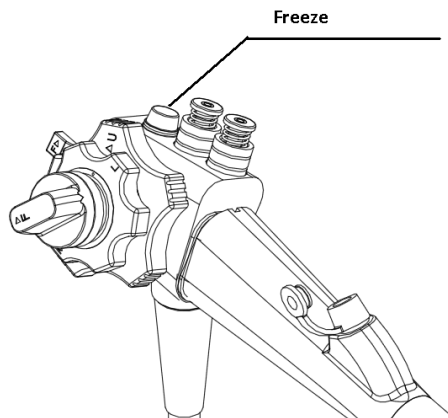
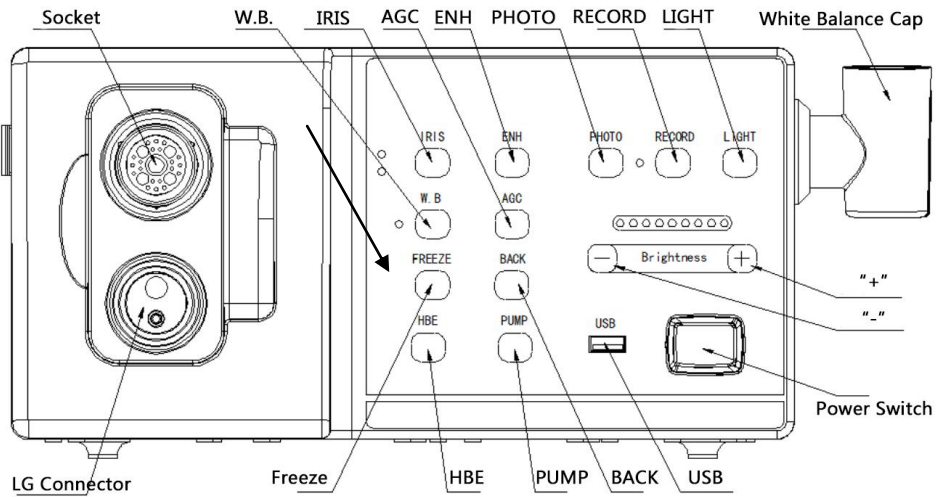

Figure 5.5
Figure 5.6
1. Press the “freeze” on the handle of the endoscope (see Figure 5.5) or short press “Freeze” button on the front panel. (See Figure 5.6).